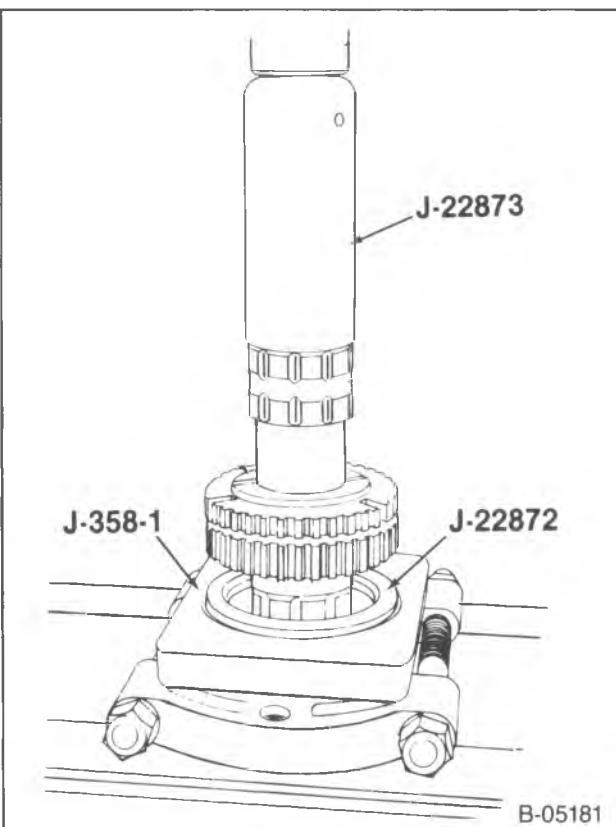

Figure 38—Installing the 1st Speed Gear Bushing
5. 1st speed bushing (245), using J-22873, (figure 38).